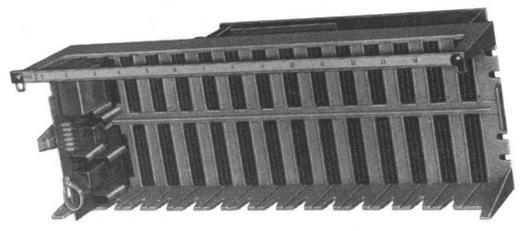

Fig. 52—607A Panel
**2.54 607A Panel**—Approximately 8 inches high by 23 inches wide and 10 inches deep. Provides fusing and connections for fourteen 112A interconnecting units. Intended for relay rack mounting. Requires separate power supply. (See Fig. 52.)